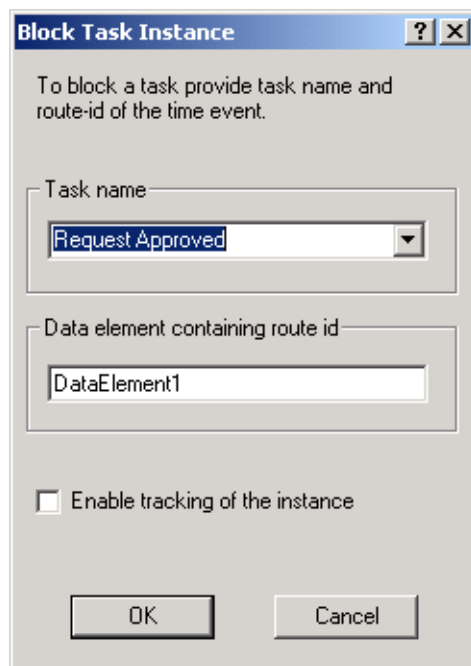

Figure 31-18. Block Task Instance dialog with Task name and a data element containing route ID.
- 3 Type the name of the data element that contains the task route ID. (See Figure 31-18, below).